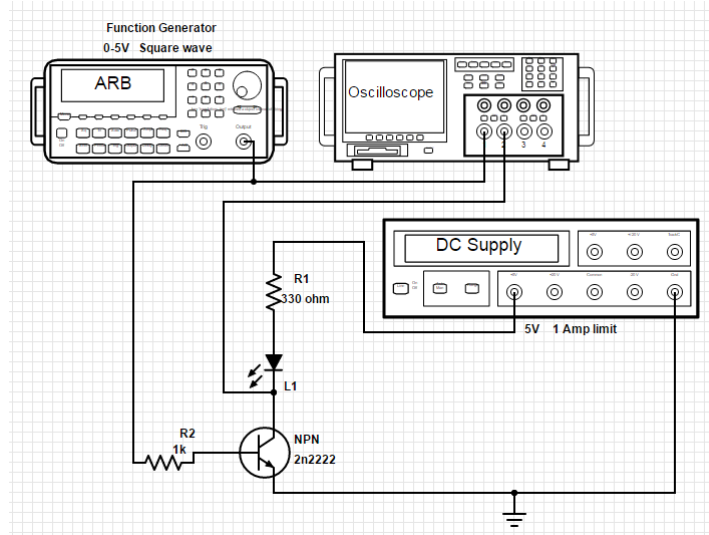
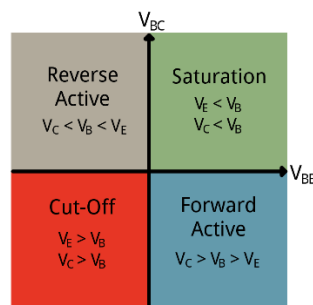

Figure 5: Transistor switching circuit
Figure 6: 4 operating modes of transistor
5. Using the components from your team-kit build the following transistor switching circuit shown in Figure 5. The circuit utilizes an NPN transistor that is ideal for use as a low side switch. Transistors have 4 operating modes (shown in Figure 6) that are controlled by the relationship between the voltage differences present at each pin. When used as a switching circuit the transistor is setup to use the **Saturation** and **Cut-Off** modes based off a 0-5V digital input.